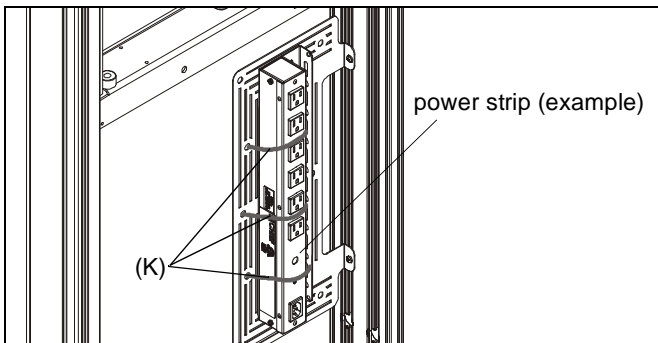

Figure 12
5. Install components to component bracket as desired using cable ties (K), cable clips (T) or screws. (See Figure 12)